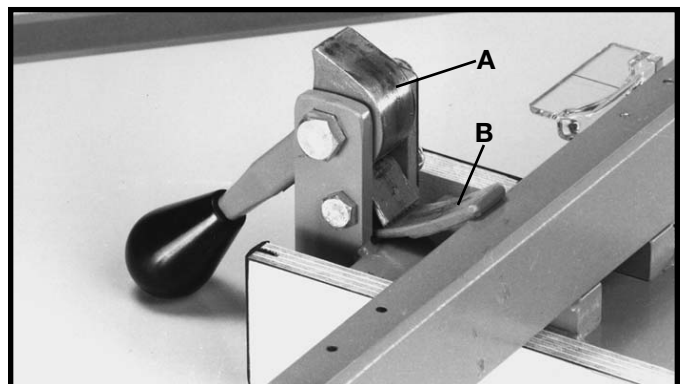

Fig. 115
2. Apply grease to cam lock (A) Fig. 115, and cam foot (B) occasionally to prevent wear.